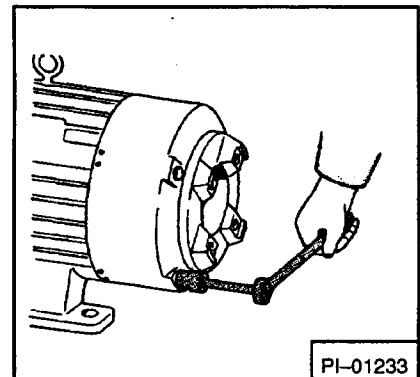

Fig. 4-52 Install Bell Housing
10. Attach bell housing to motor and tighten holding bolts evenly (Fig. 4-52).